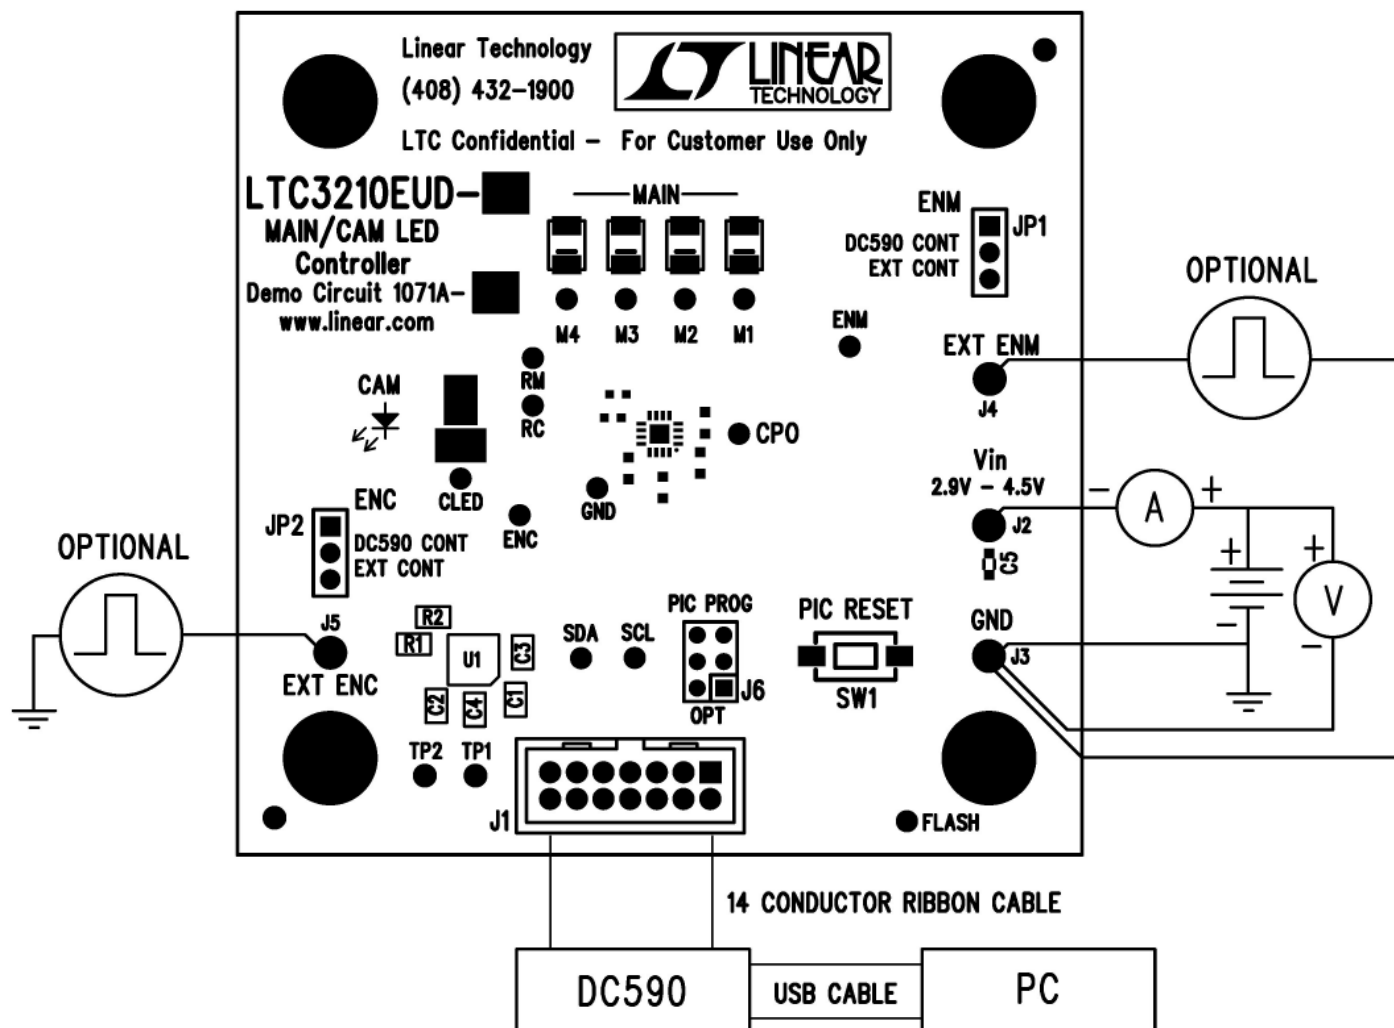

Figure 1. Proper Measurement Equipment Setup for DC1071A
Demonstration circuit 1071 is easy to setup. Refer to Figure 1 for the proper measurement equipment setup and follow the procedure below.
3. Connect DC1071 to the DC590 USB Serial Controller using the supplied 14-conductor ribbon cable as shown in Figure 1.